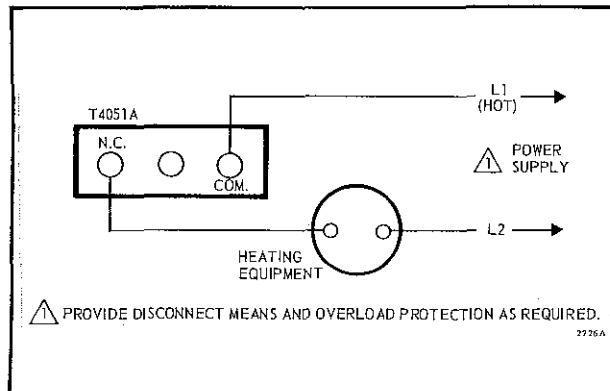

Fig. 2—T4051A Heating Control.
5. Connect the heating and/or cooling system wires to the back terminals of the thermostat. (See Figs. 2 through 12.)